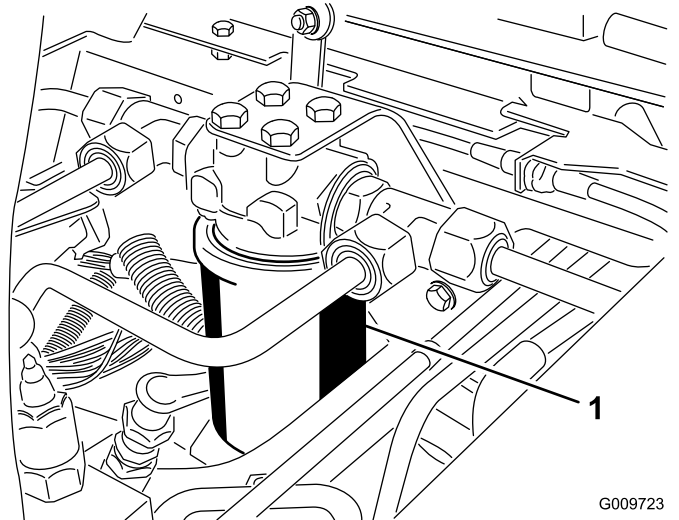
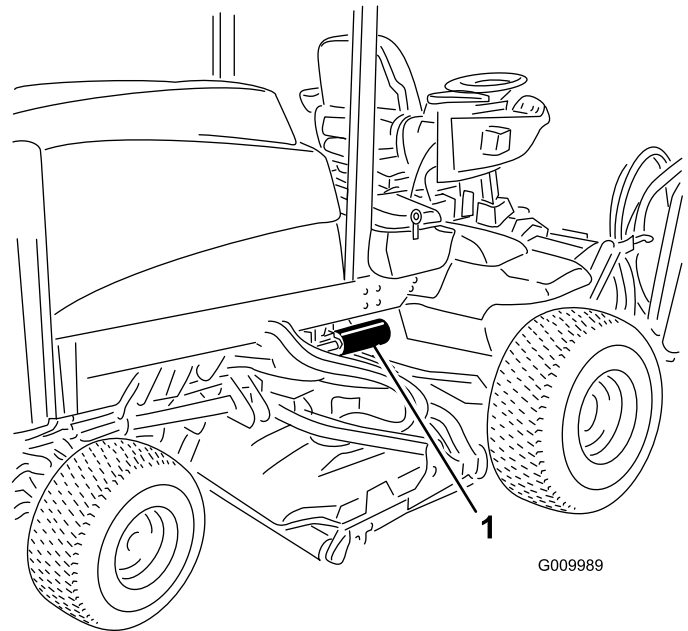

Figure 55
Figure 56
2. Clean the area around the filter mounting area. Place a drain pan under the filter and remove the filter (Figure 55 and Figure 56).